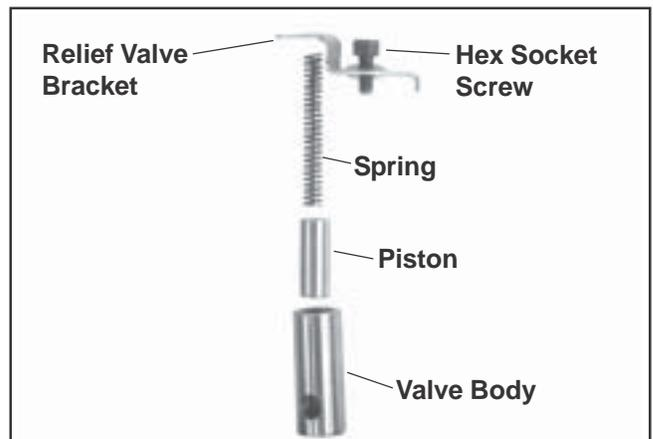

Figure 9-44. Removing Oil Pressure Relief Valve Body, Piston, and Spring (Early Style).
3. Identify the type of oil pressure relief valve used. If the relief valve assembly is like that shown in Figure 9-44, remove the hex socket screw, retaining bracket, valve body, piston, and spring. If the relief valve is like that shown in Figure 9-45 removal is not necessary. See the note on the next page.